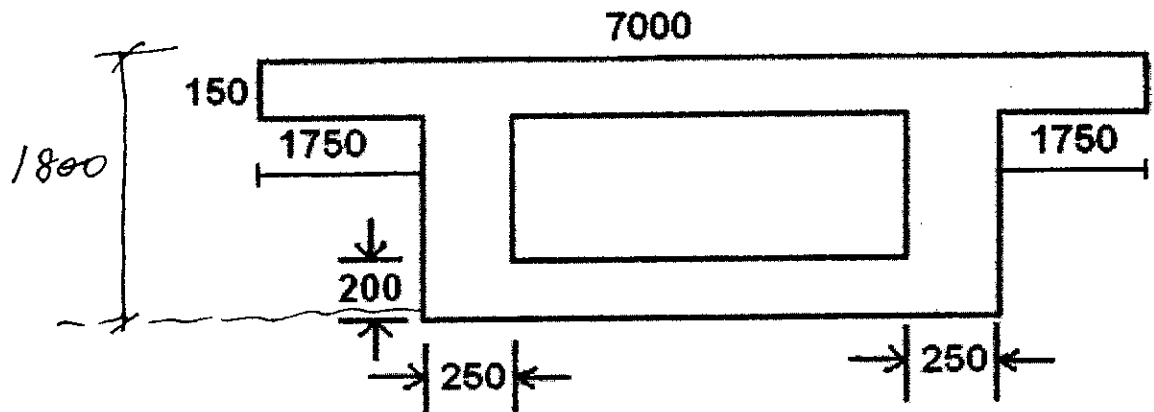

Fig.4
4. A PSC beam used over an effective span of 30m has the C/S as shown in Fig.4. The beam is provided with 6 cables at centre with an effective cover of 100mm. The cables are parabolic with 3 cables in each web at the support arranged symmetrically with respect to the centroidal axis with C/C distance between each cable = 250mm. The initial prestressing force in each cable is 2300kN and the final prestressing force in each cable is 1800kN. The beam carries 3 concentrated loads of 500kN each at intervals of 7.5m symmetrically arranged. Assuming the grade of concrete as M 40, calculate the following deflections due to